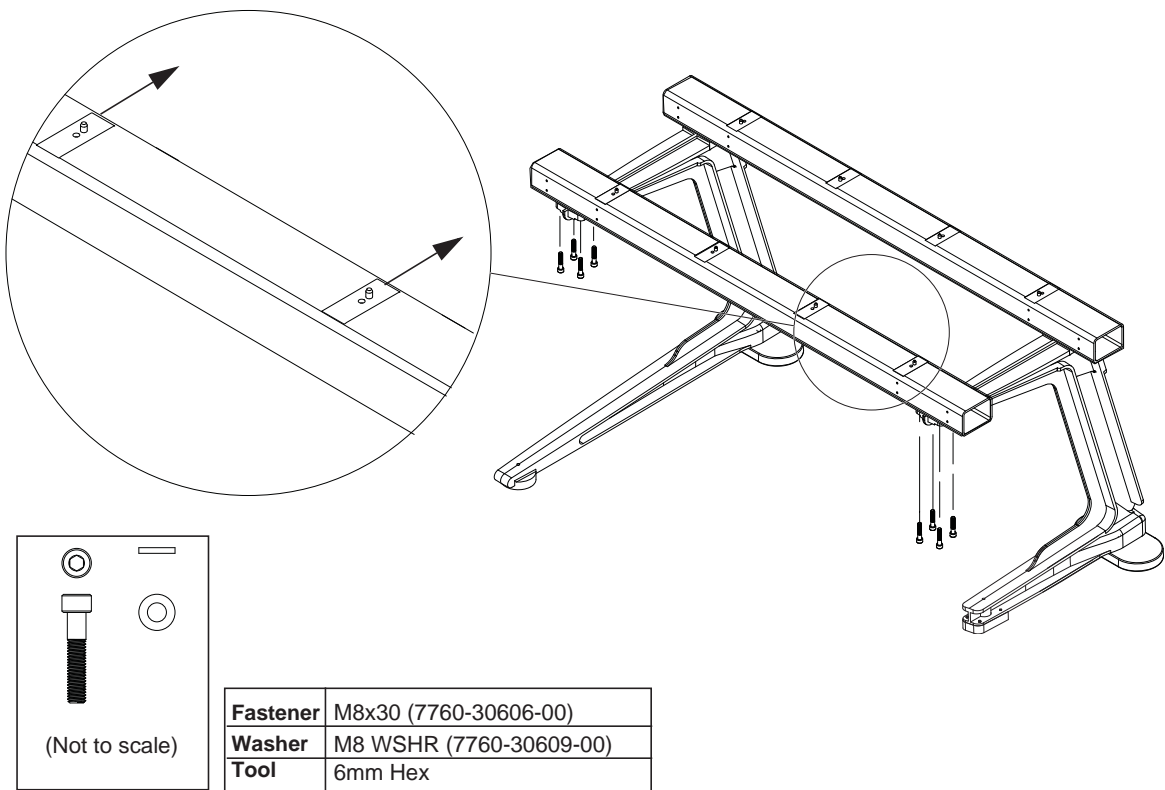

Figure 5. Attaching the front Beam to the Legs of the left frame (orientation of top pins shown at upper left)
- 2 Using four fasteners and washers (included) per mount, attach the Beam across the front of the Legs as shown in Figure 5. Do not tighten the fasteners fully.